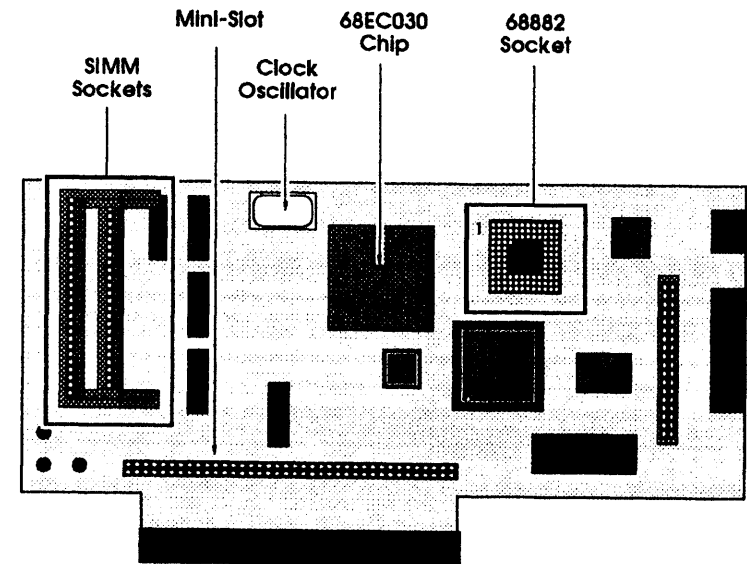

Figure 5.15 – A530 circuit board layout.
- 1) Locate the components identified in Figure 5.15.